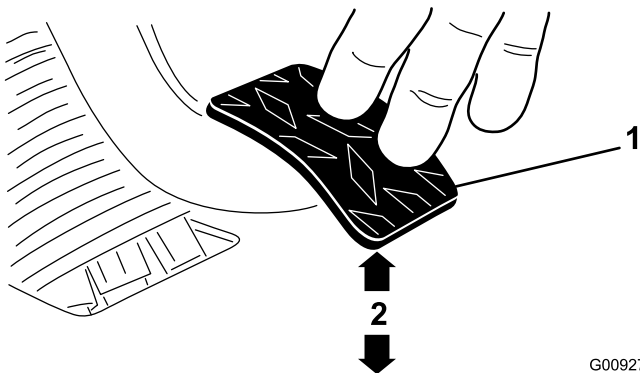

Figure 65
3. Adjust the jam nuts or ball joint until the back, rear edge of the clutch pedal is 3.75 ± 0.12 inch (9.5 ± 0.3 cm) from the top of the floor plate diamond pattern, when an 4 lb (18 N) force is applied to the pedal (Figure 65).